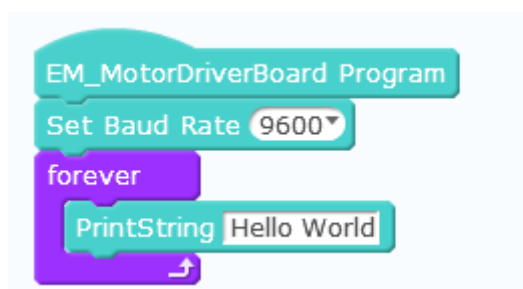

Figure 2-8
- 3) Drag the "serial port print string" building block into the repeated execution building block in the Motor DriverBoard building block and enter "Hello world" as shown in Figure 2-8.